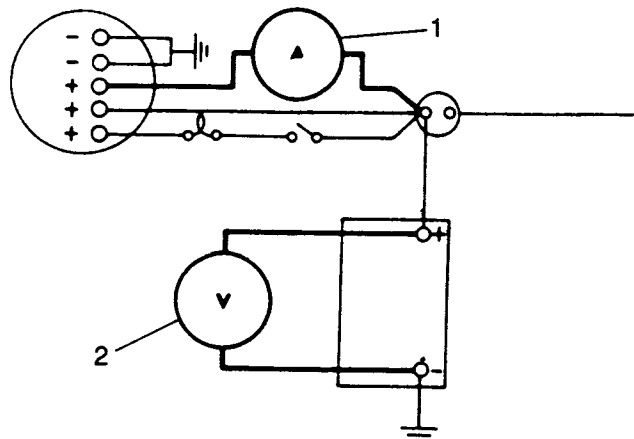

Fig O3.4
(1) Refer to Fig O3.4. Connect ammeter (1) in series with starter solenoid and alternator main output cable.
(2) Connect voltmeter (2) between battery terminals.
(3) Start engine and run at 3000 rev/min until the ammeter reads less than 10 amperes. Voltmeter reading should be between 13,6 volts and 14,4 volts.
(4) An unstable reading or a reading outside the specified limits indicates a faulty control unit.